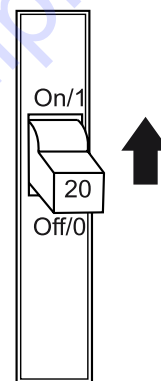

Figure 72. GFCI Circuit Breaker
2. Place a GFCI circuit breaker (Figure 72) in the **ON** position.